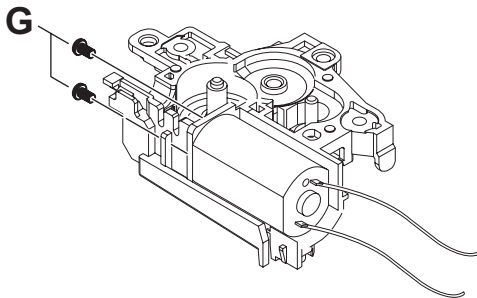

Fig.17
- (3) Remove the two screws **G** attaching the Loading motor. (See Fig.17)